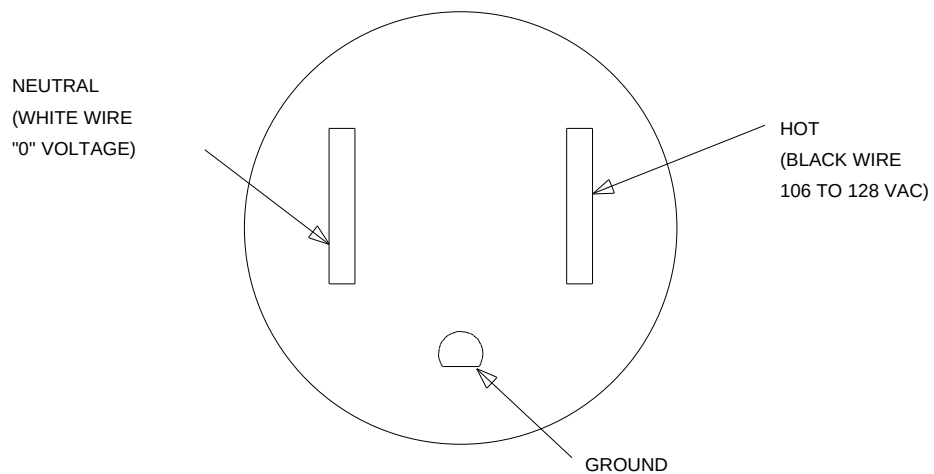

Figure 4-24. 3-Prong 120VAC Receptacle
1. Set KS-20599, list 4 digital voltmeters (VM), or equivalent, to AC voltage range scale greater than 250VAC.
2. See Danger. Measure voltage between hot side and neutral side of receptacle (Figure 4-24).
4. Measure voltage between neutral side of receptacle and receptacle ground (Figure 4-24).